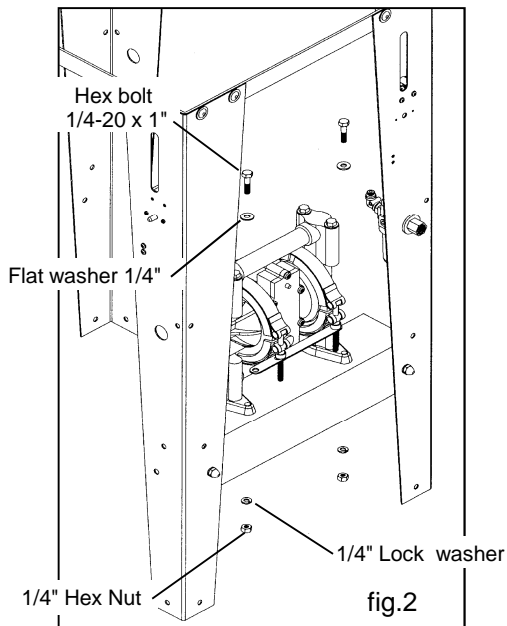

fig.2
Attach the pump to the stand using the (2) 1/4-20 x 1 hex bolts, (2) 1/4" flat washers, (2) 1/4" lock washers and (2) 1/4" hex nuts per leg (see fig.2).